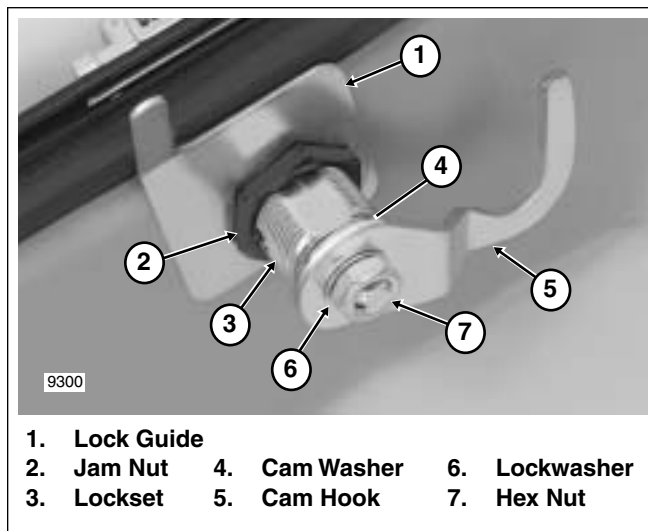

Figure 2-150. Lockset Assembly
1. At inside of Tour-Pak lid, remove hex nut, internal tooth lockwasher, cam hook and cam washer. Remove jam nut and lock guide. See Figure 2-150.
3. Install lock guide over threaded body of lockset oriented with finger at rear and pointing toward bottom of Tour-Pak lid. See Figure 2-150.